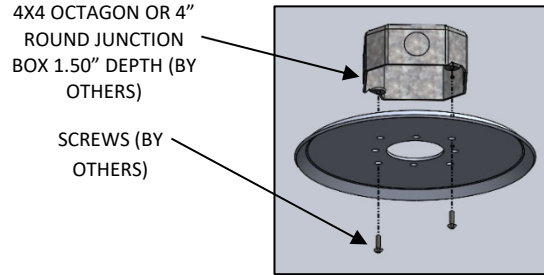

FIG. 5- MOUNTING PLATE INSTALLATION
3. Attach MOUNTING PLATE to JUNCTION BOX (BY OTHER) as shown below in FIG. 5.